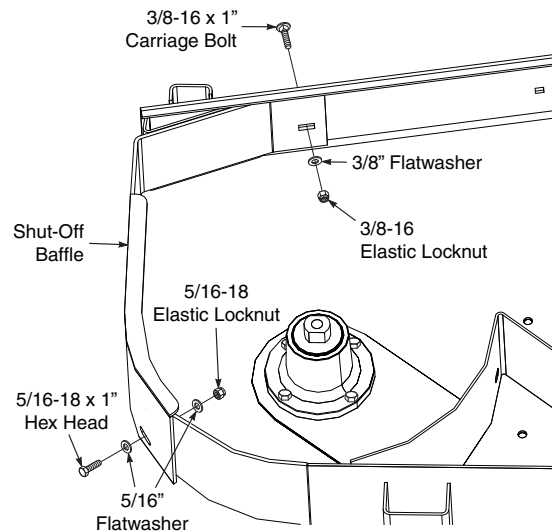

Figure 1. Mulch Plate Baffle Installation
3. Install the Mulch Plate Baffle to the cutter deck using the hardware provided with this kit. See Figure 1.